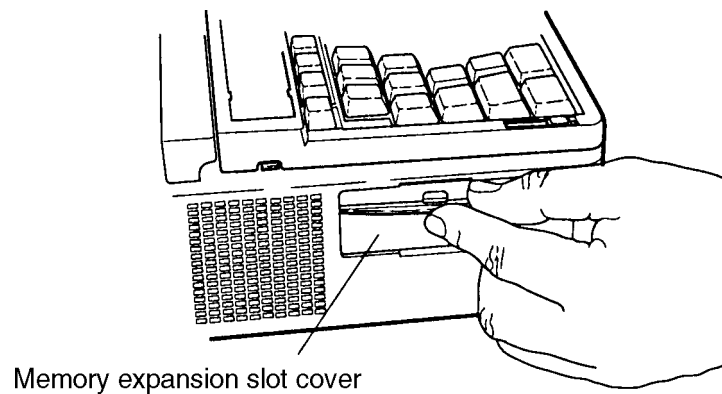

Figure 4-4 Opening the Memory Expansion Slot Cover
The T6600C has two memory expansion slots. To remove an optional memory card from a slot, follow the steps below and refer to Figure 4-4.
4. Locate the **memory expansion slot cover** and open it by sliding it down (Figure 4-4).
To install an optional memory card in the T6600C, follow the steps below and refer to Figure 4-4.